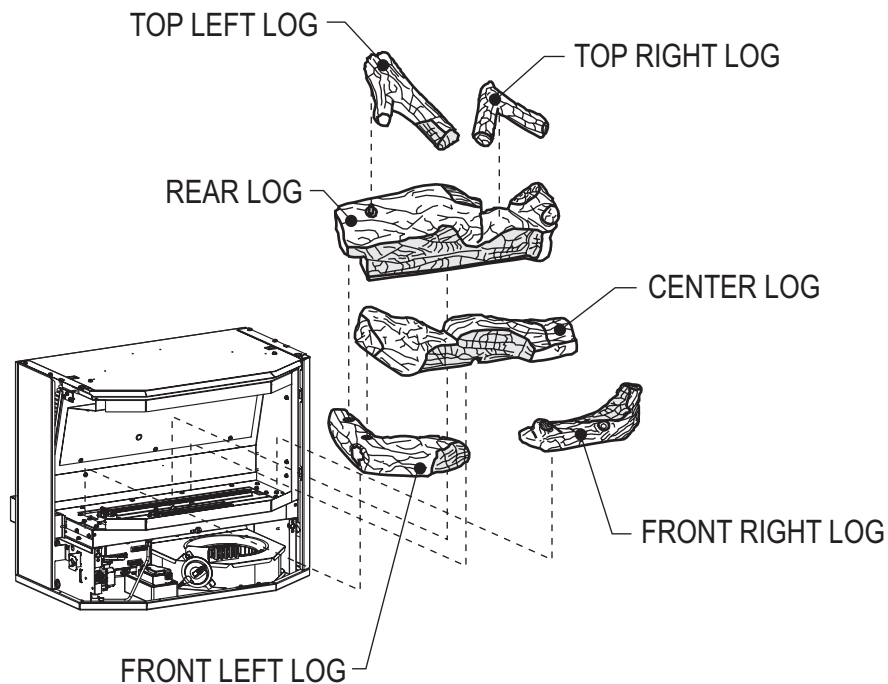

Figure 12
7. Position top left log into locating pin on rear log and rest on center log. See Figure 12.
8. Position top right log into locating slot on rear log. See Figure 12.